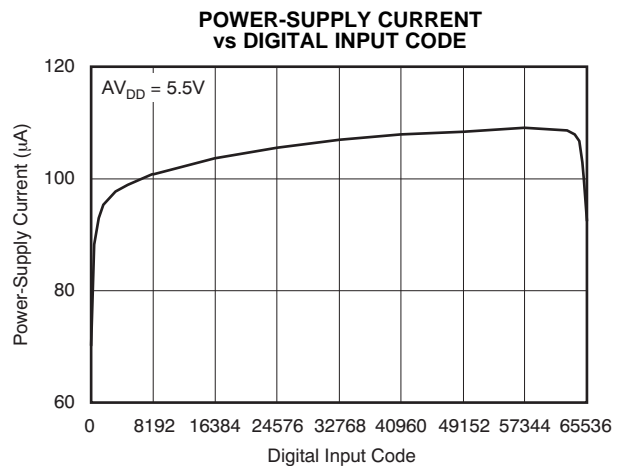

Figure 12.
(6) Specified by design and characterization, not production tested.
(7) For more details, see Figure 12, Figure 53, and Figure 83.